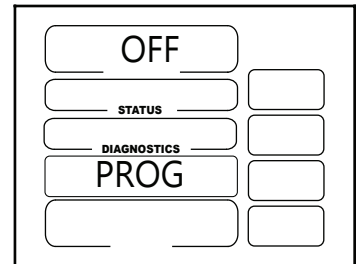

Figure 17-2
1. Program on/off allows the operator to turn on or turn off all of the programmed sectors. Figure 17-2 shows the off status.